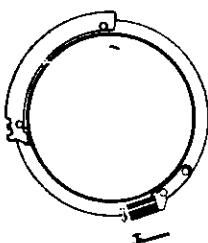

Fig. 45
- 1) When replacing following parts, carefully cut the contacts as shown in Fig. 45, 46, 47, 48 and assemble them.
- (A) F stop ring assy (Fig. 45).